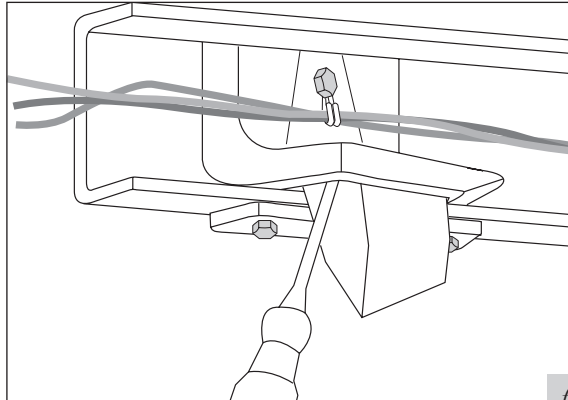

fig. 3
- Use a screwdriver to remove or pry the rubber jounce bumper from the metal bracket on the frame rail (Figure 3). This will not be reused.